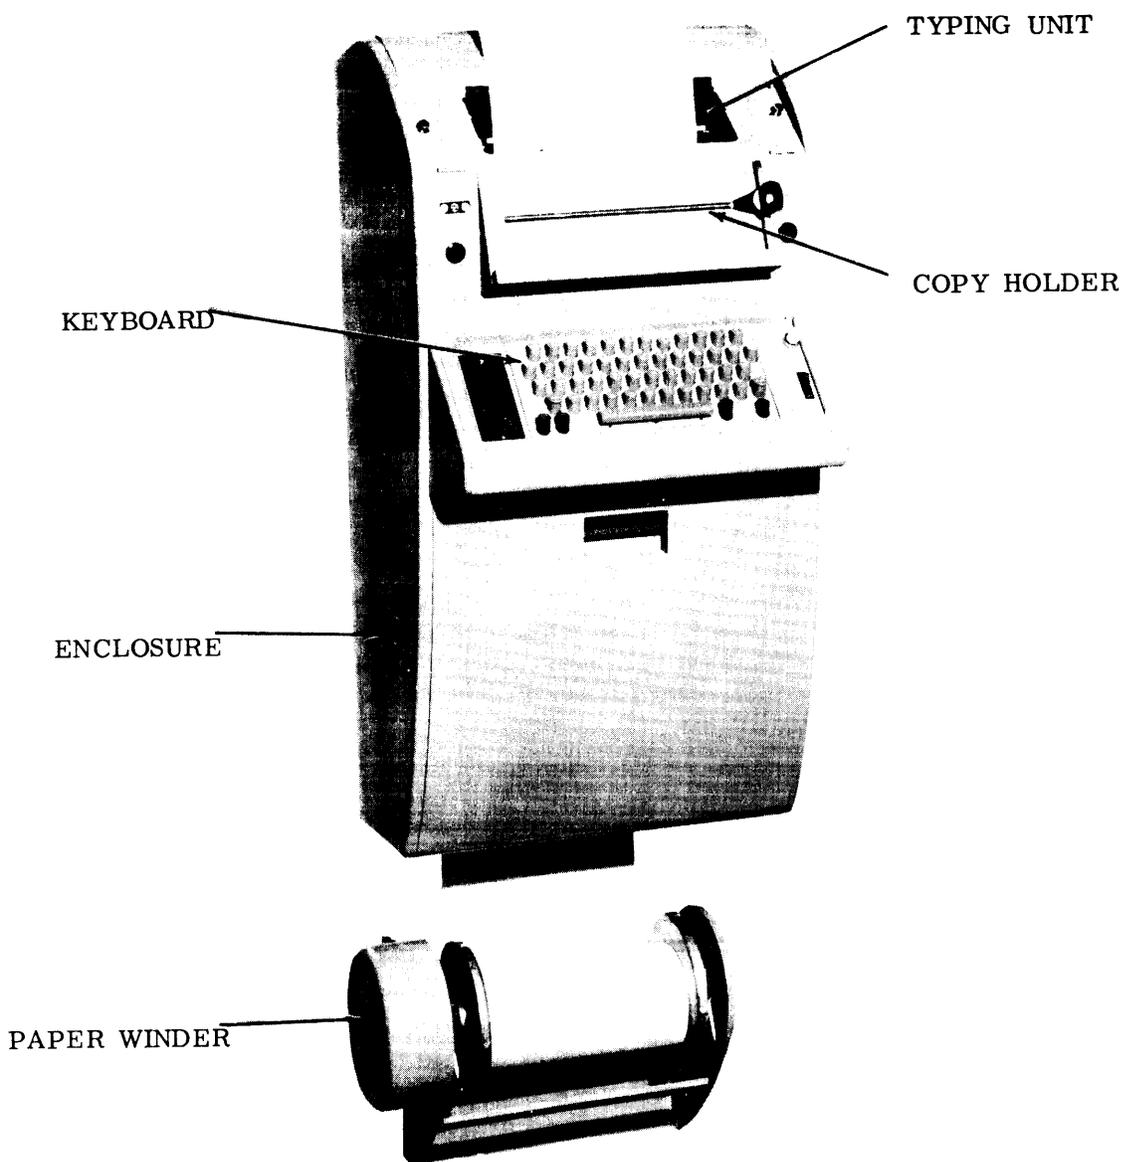

Figure 4 - Wall Mounted 35 KSR Set
- (c) Wall Mounted Set - May be mounted on a wall surface to conserve floor space (Figure 4).